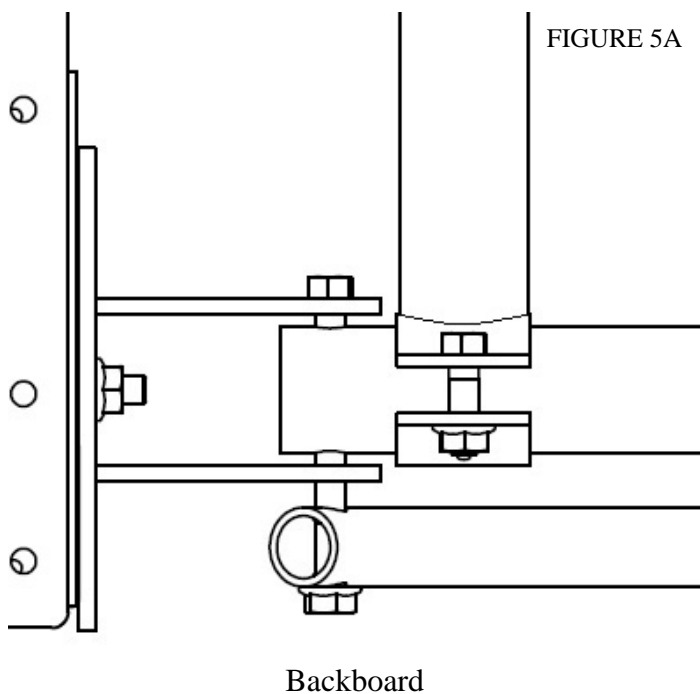
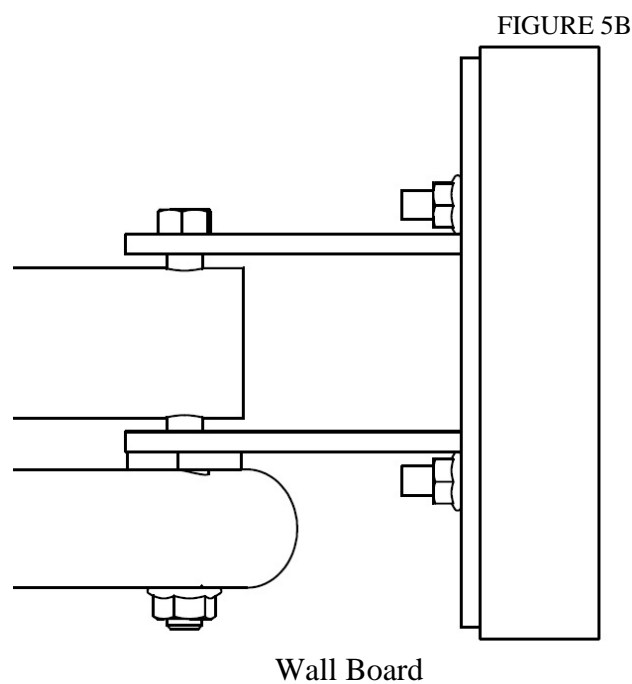

FIGURE 5A
FIGURE 5B
10. Attach the telescoping brace below the IPB1360 pivot bracket on the bottom extension pipe using a 7/16"x5" machine bolt. See Figure 5A and Figure 5B.